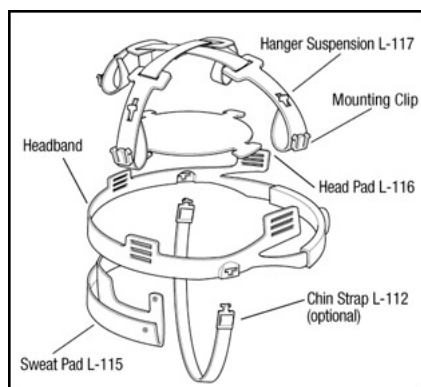

Fig. 1: Components of Head Suspension Assembly L-113
The complete head suspension assembly (L-113) is shown exploded (Fig 1). To remove it from the 3M™ L-Series Headgear and disassemble it for cleaning or repair:
- To remove the suspension subassembly from the headband, refer to and turn the four hanger mounting tabs, located on the hanger suspension L-117, a quarter-turn, then pull them out of the slots in the headband (Fig. 1).